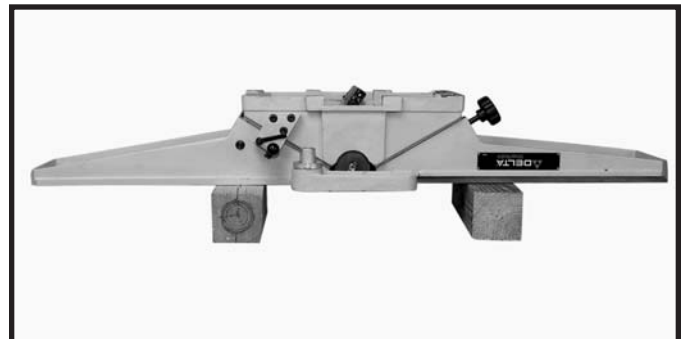

Fig. 9A
1. Turn jointer upside down so it lays flat. One way to do this is to place the jointer tables onto two wooden 4x4s as shown in Fig. 9A.